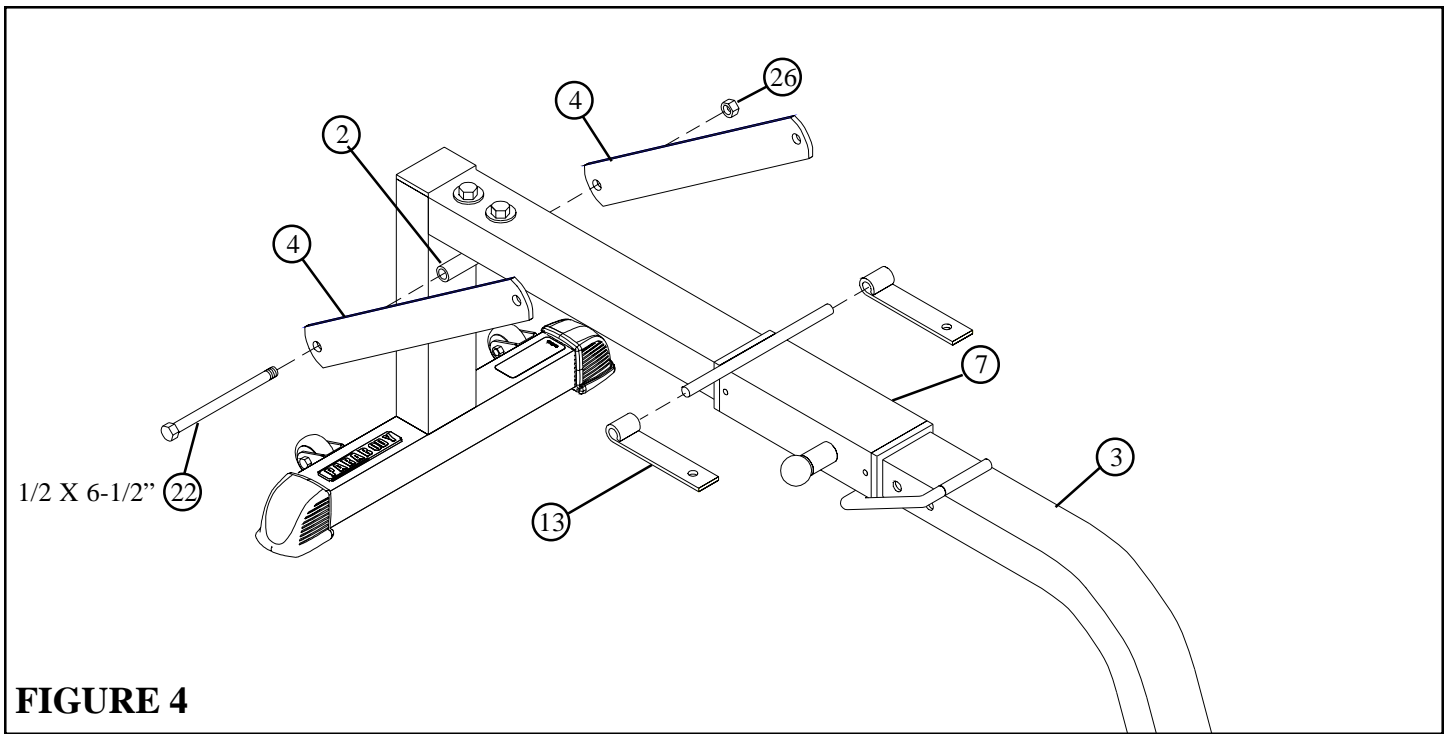

FIGURE 4
- Attach two 1/4 X 2 X 16-1/2" PLATES (4) to the bushing on the SWIVEL PLATE (2) using one 1/2 X 6-1/2" BOLT (22) and one 1/2" NYLOCK NUT (26). See FIGURE 4.
- Slide two HINGE TABS (13) over the shaft on the WOLFF SLEEVE (7) as shown in FIGURE 4.